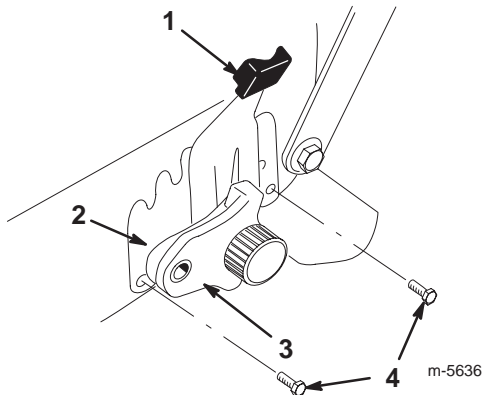

Figure 3
2. Move the spring arms to the highest cutting height setting (Fig. 3).
3. Remove and discard the wheel bolt that secures each wheel to the pivot arm (Fig. 3).
4. Position each rear wear plate (Figs. 3 and 4), aligning the notches in the wear plate with the notches in the lawn mower housing.